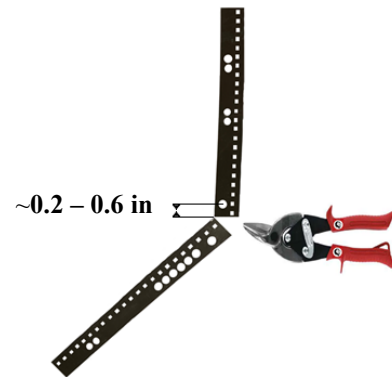

Figure 16: Excess tape cutoff
9. Cut the tape between ~0.2 – 0.6 inches down from the center of the hole that the bottom carabiner will go through. See Figure 16